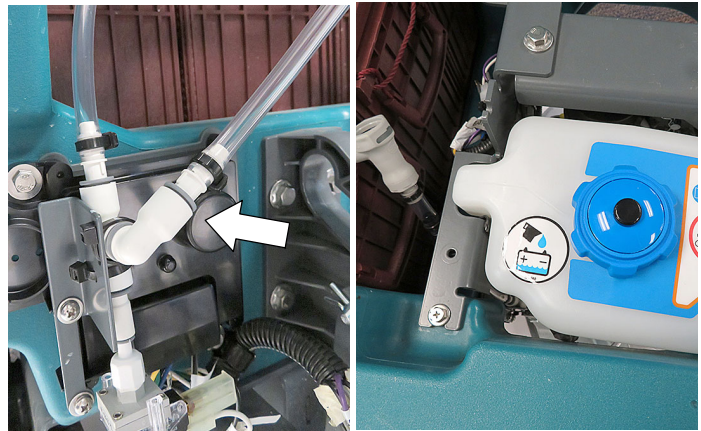

Fig. 8
10. Plug the tank's hose into the ABW module assembly and position the tank into the machine as shown (Figure 8).